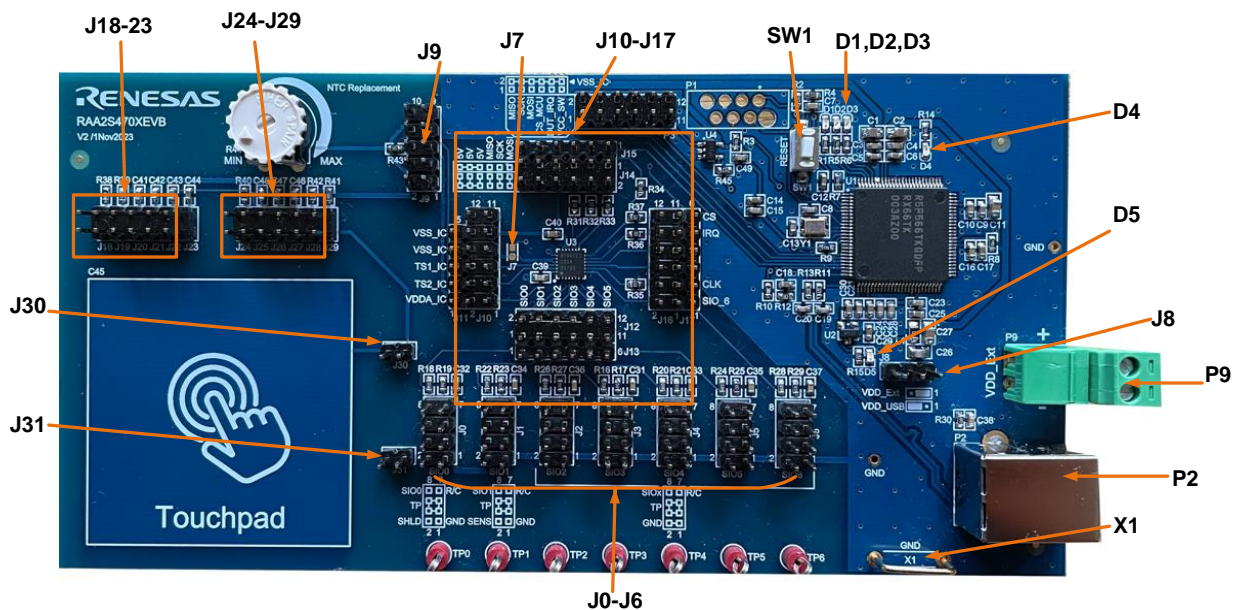

Figure 2. Main Components of the EVB
1. Set the application specific jumpers according to Figure 2 and Table 1.